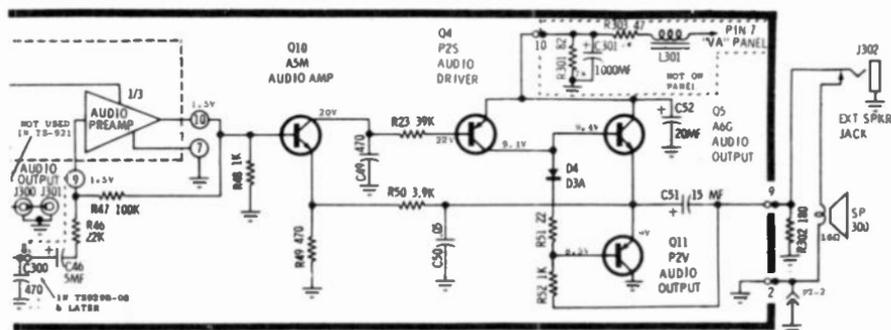

Fig. 6-17. Schematic of Motorola's CTV7-8 audio circuits.
Motorola's CTV7-8 audio subsystem (Fig. 6-17) uses an IC and a push-pull capacitor-coupled output. However, the solid-state FM detector does have a quadrature coil like the 6HZ6 tube, and so also is known as a quadrature detector.
On the CTV8 schematic (Fig. 6-17), a quadrature coil and shunting 150-pf capacitor form a tank circuit, the Q of which determines the peak separation of the detected output, noise characteristics, and output voltage swing of the detector. Since this is a quadrature system, the tuned circuit will lag the incoming carrier by precisely 90 degrees. The output, through the emitter follower transistor to pin 2, is twice the input through pin 13, the initial emitter-follower and the 1K limiting resistor. The time constant of the 10K resistor in the right differential amplifier and the 0.015-mfd capacitor (normally the de-emphasis network) shunts the twice multiplied incoming frequency and any noise pulses to ground. Higher frequencies result in a greater phase lag and lower frequencies produce a smaller phase lag, with maximum output at 0 degrees and-or 180 degrees.
16. What's different about Motorola's output stage in Fig. 6-17?